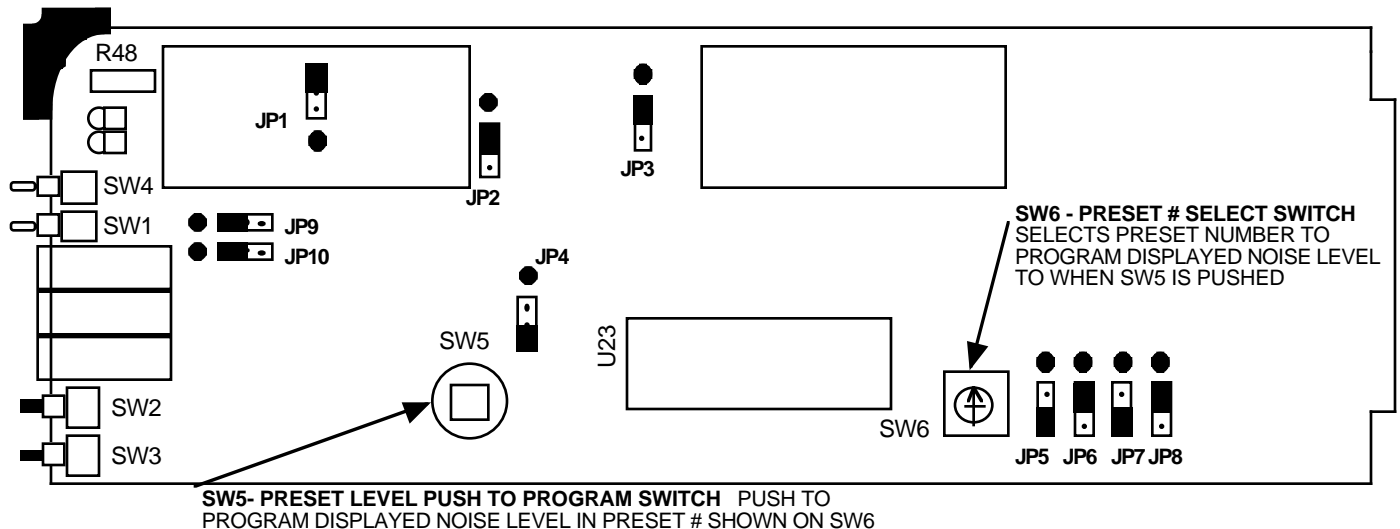

FIGURE 2.4 2007 On-Card Jumpers and Controls
2.4 Accessing and Changing On-Card Jumpers and Controls - Figure 2.4 shows jumpers (with factory settings) and other on-card controls. To remove the printed circuit board (PCB) from the extrusion for access to the jumpers and controls:
- 3.) With the **power supply disconnected**, move jumpers to the desired positions (Fig 2.4).
- 7.) Install four (4) **rear panel screws**.
- 1.) If required, check that on-card jumpers are set to the desired positions (Figure 2.4)
- 4.) Set the desired noise level by pushing SW2 or SW3. If numbers 0 to 9 appear when pushing SW2 or SW3, the 2007 is set for the preset level mode (with on-card jumper JP7, Figure 2.4).
2.5.3 Noise Level Setting, Preset Level Mode - Preset level selection is accomplished when the on board, but not front panel accessible, three-pin jumper (JP7) (Figure 2.4) is set to the “preset level” (DOT) position. Ten preset levels (0-9) can be selected as follows:
1. Remove the 2007 PCB (see section 2.4) to access the preset level selecting decimal switch (SW6) and the push to program switch (SW5) (Figure 2.4). With the display mode jumper (JP7) set in the noise level mode, the noise level set switches (SW2, SW3) are pushed to the noise level desired (Figure 2.2).
2. The decimal switch (SW6) is set to the preset level number desired to be programmed (Figure 2.4).
3. The programming button (SW5) is pushed to program the currently displayed noise level into that preset level number (Figure 2.4).
(Figure 2.4) and observe yellow LED DS1 (Figure 2.2) is on. Serial ASYNC (8N1) data is received via RS232C receiver U21 and sent via RS232C transmitter U38 at a 2.4 kB/s data rate. When in the remote mode, either continuous or preset noise levels can be adjusted, but programming of the preset levels can only be done locally. The 2007 noise power settings can be automatically calibrated with an HP3708A Noise Test Set. Contact Cross Technologies, Inc. (770-886-8005) for details.
3.2.3 Noise Level Setting, Preset Level Mode - Preset level selection is accomplished when the on board, but not front panel accessible, three-pin jumper (JP7) (Figure 2.4) is set to the “preset level” (DOT) position. Ten preset levels (0-9) can be selected as follows:
1. The 2007 is placed on an extender card to access the preset level selecting decimal switch (SW6) and the push to program switch (SW5) (Figure 2.4). With the display mode jumper (JP7) set in the noise level mode, the noise level set switches (SW2, SW3) are pushed to the noise level desired (Figure 2.2).